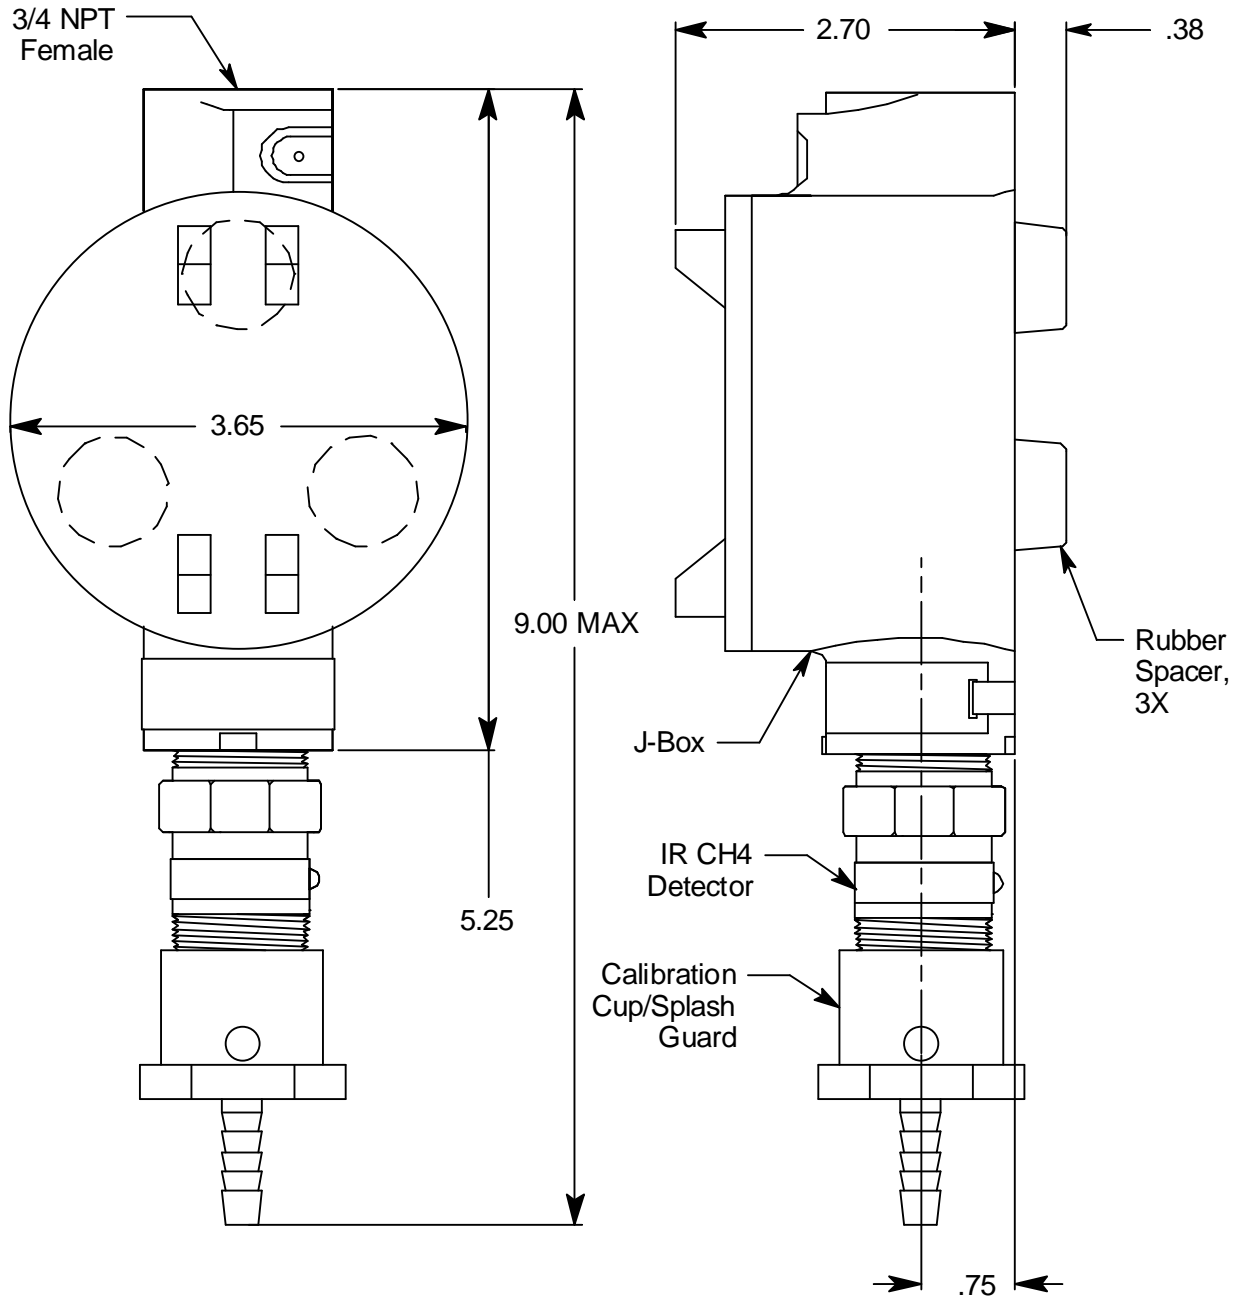

Figure 3: Mounting the Methane Transmitter
2. At the monitoring site you select, hang or mount the detector junction box with the detector facing down (see Figure 3).